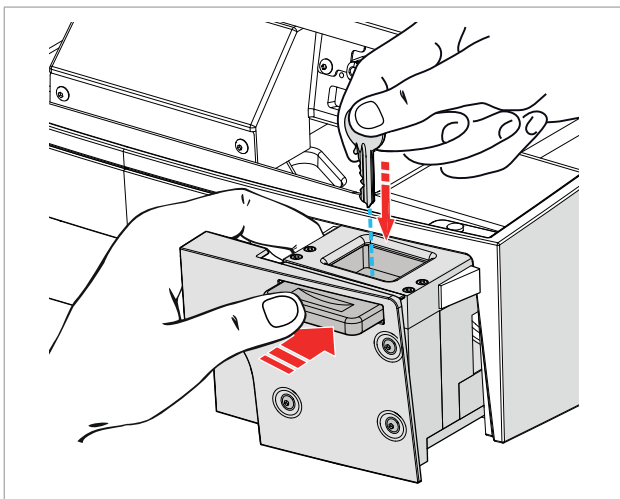

Fig. 61
- 3) Use the other hand to insert the key to be read (Fig. 61).